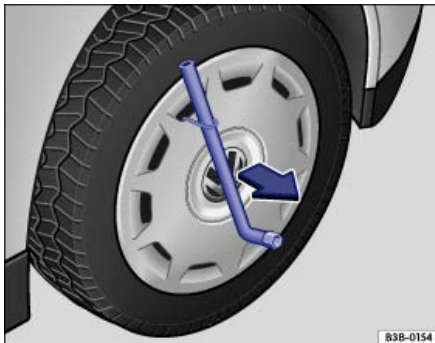

Fig. 178 Pulling the wheel cover off.
- Slide the lug wrench through the clip ⇒ fig. 178 and pull the wheel cover off in the direction of the arrow.